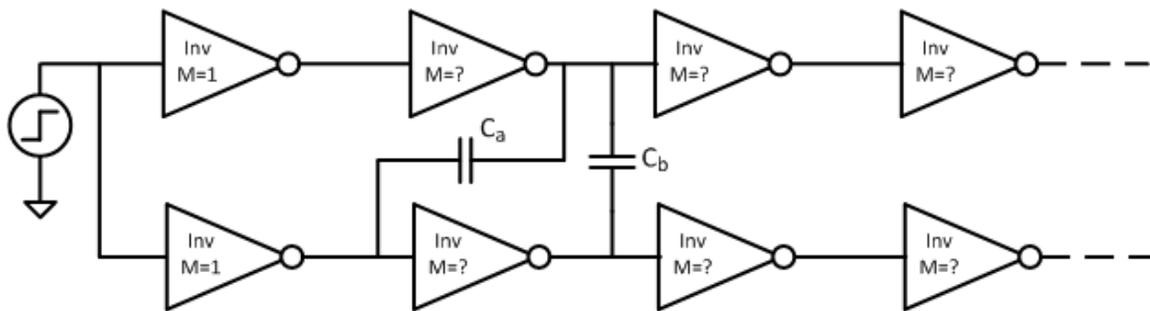

Figure 2(d)
- e) Now let's use the circuit from Figure 2(d) to see how connecting the capacitor in a different way may have more or less impact on the delay. For each gate, use the fanout of part d). The two rows are identical. For part i) just consider capacitor  $C_a$  (disconnect  $C_b$ ), while for part ii) just consider capacitor  $C_b$  (disconnect  $C_a$ ).